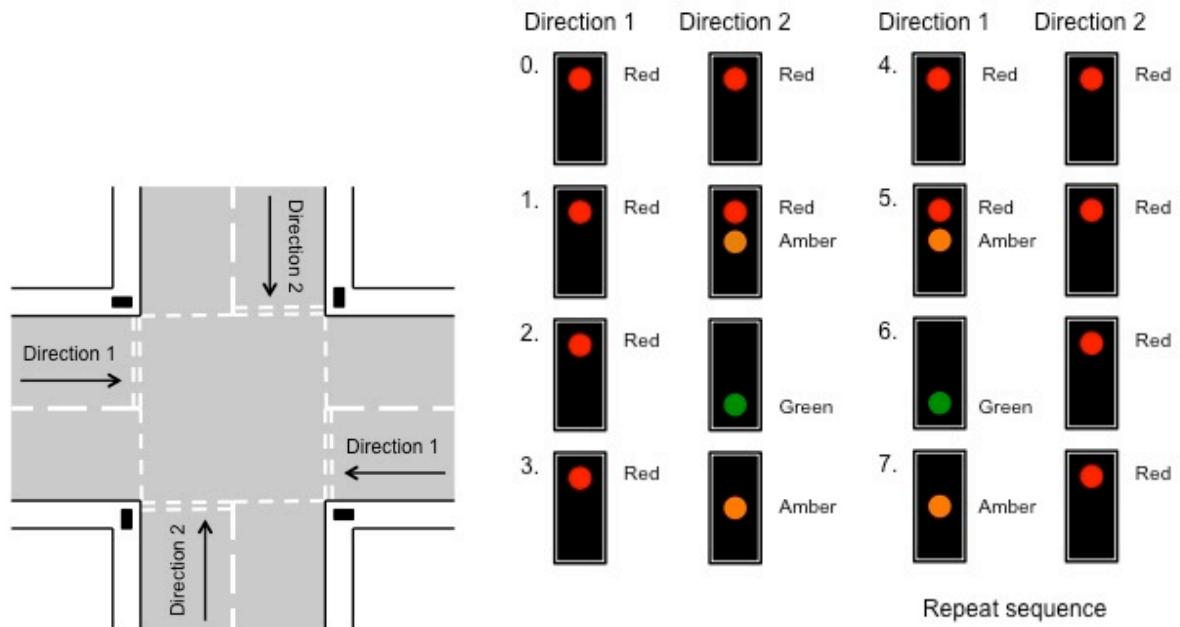

Figure 6.3: Traffic light sequence for a simple crossroads
Traffic lights are used universally to control the flow of traffic at junctions. Figure 6.3 illustrates the layout of a simple traffic junction, and gives the traffic light sequence to control the flow of the traffic. We can design a finite state machine to control a traffic light system where each state corresponds to one of the eight possible light configurations in the sequence.
- The sequence of the traffic lights should follow that of a UK crossroads (see figure 6.3)